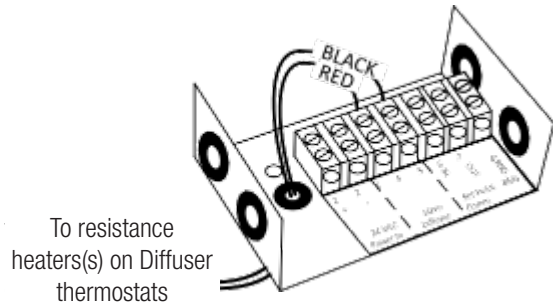

Fig. 4
10. Route the wires through the 1/4 in. hole in the scoop, through the 5/16 in. hole in the backpan and into the terminal box (see Figure 4 and 5).